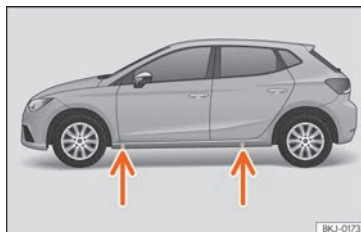

Fig. 76 Jack position points.
• Find the support point on the strut (sunken area) closest to the wheel to be changed » » Fig. 76.